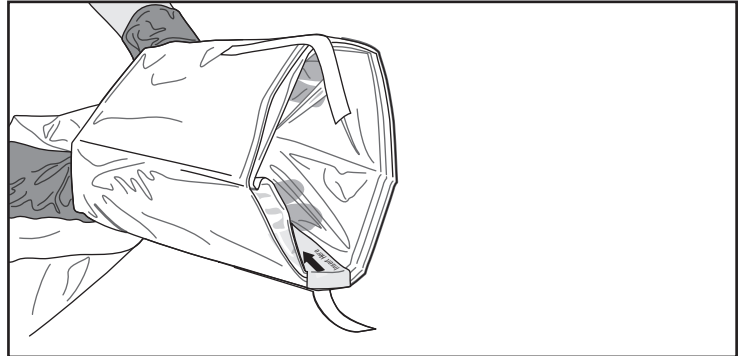

Figure 3. Opening the Bag
4. The sterile operator places their hands into the innermost folds of the bag, opening the bag for MDU5 PLUS placement by the non-sterile operator. The "Insert Here" sticker can be used to easily locate the bag opening (Figure 3).